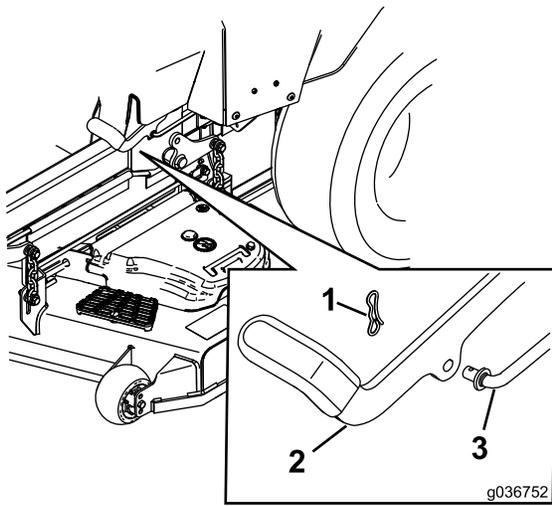

Figure 71
6. If an adjustment is necessary, disengage the parking brake. Remove the cotter pin from the brake linkage shaft (Figure 71).